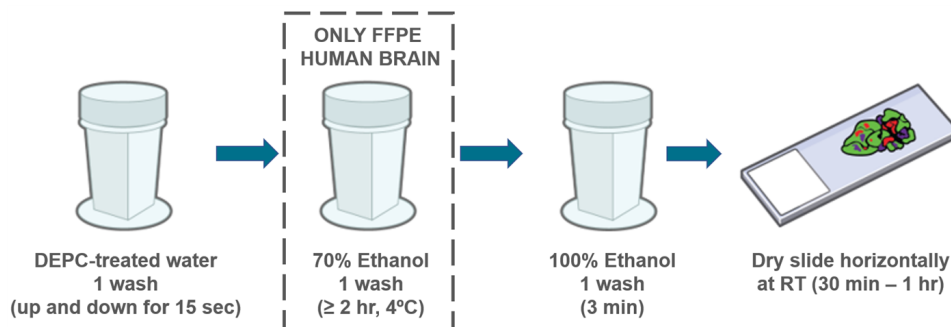

Figure 5: Water and Ethanol Wash
7. **Immediately transfer all slides to staining jar containing fresh DEPC-treated water.** Move slides up and down for 15 seconds to wash (Figure 5).